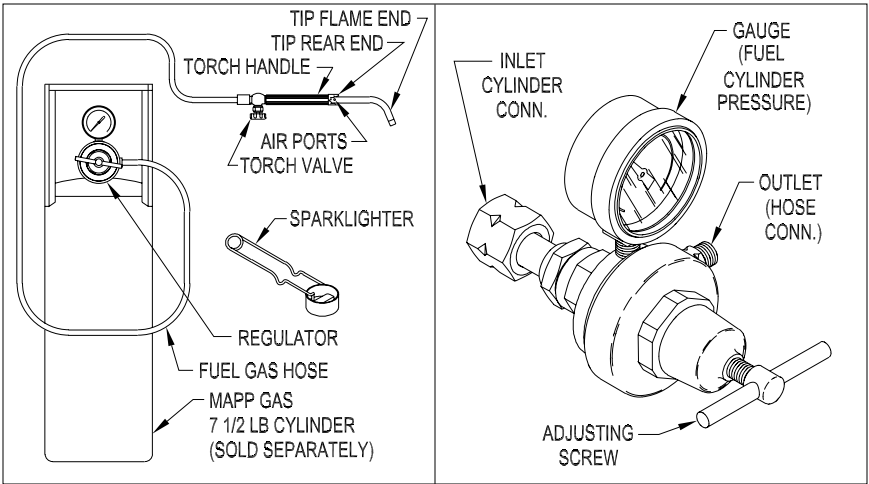

Figure 1. Typical Air Fuel Outfit Setup (left) and Acetylene Regulator (right).
To connect outfit (Figure 1):
- b. With adjusting screw of regulator released fully counterclockwise, connect inlet (Figure 1) to cylinder valve outlet. Tighten nut with suitable wrench.
Fuel gas enters the torch through the valve (See Figure 1). The gas flows through the handle to the tip rear end where it passes through a constricting orifice to create a fuel jet. As it jets past the air ports beyond the orifice, air is sucked in and mixed with the fuel gas to form the required combustion mixture. The mixture flow to the tip flame end where it is ignited.